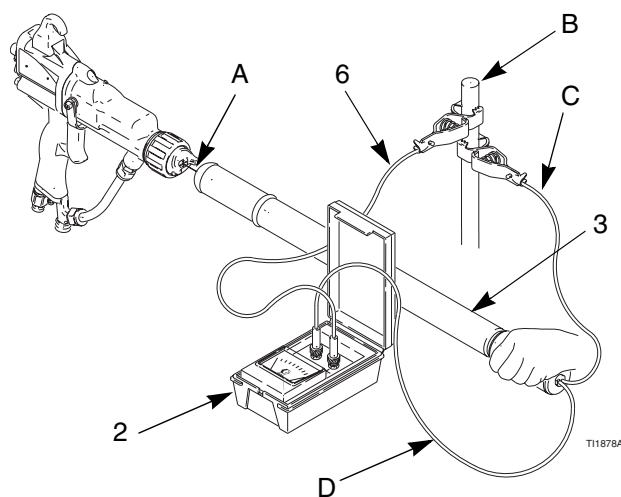

Fig. 1. Testing the Gun While It is Operating
1. Connect the probe's red wire (D) to the kV meter (2) and its green/yellow ground wire (C) to a true earth ground (B). See Fig. 1.
2. Connect the kV meter's green/yellow ground wire (6) between the kV meter (2) ground connection and a true earth ground (B).
3. Holding onto the probe (3) handle, touch the end of the probe to the spray gun electrode (A). Move the end of the probe slightly until the maximum kV reading is obtained.
4. Read the voltage on the kV meter (2). Refer to Table 1 for your gun model.
KV meter not grounded.	Connect the kV meter ground wire to a true earth ground; see Fig. 1.
KV meter connected wrong.	Correct connection; see Fig. 1.